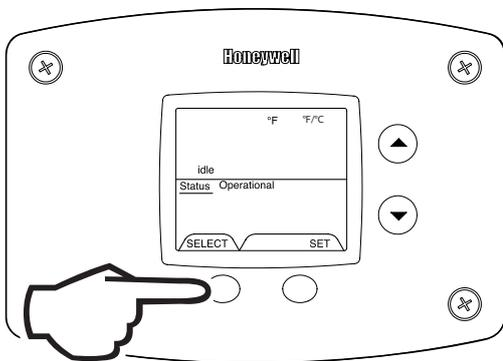

Fig. 65
- While in 'Service Mode', press 'Select' button until '°F/°C' is shown in the upper right portion of the water heater display (Fig. 65).